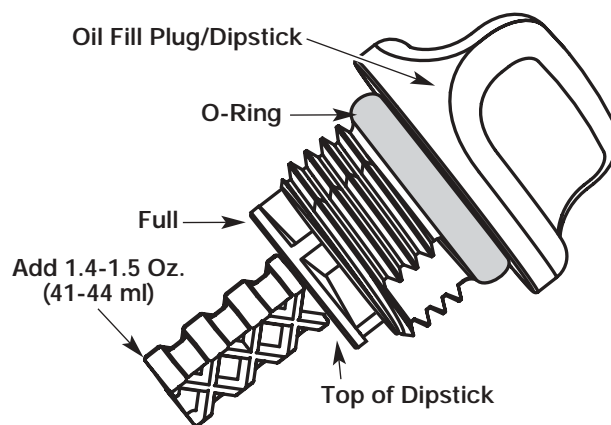

Fig. 57
5. Remove the oil fill plug/dipstick and check the oil level. Oil should be up to the top of the dipstick (Fig. 57).